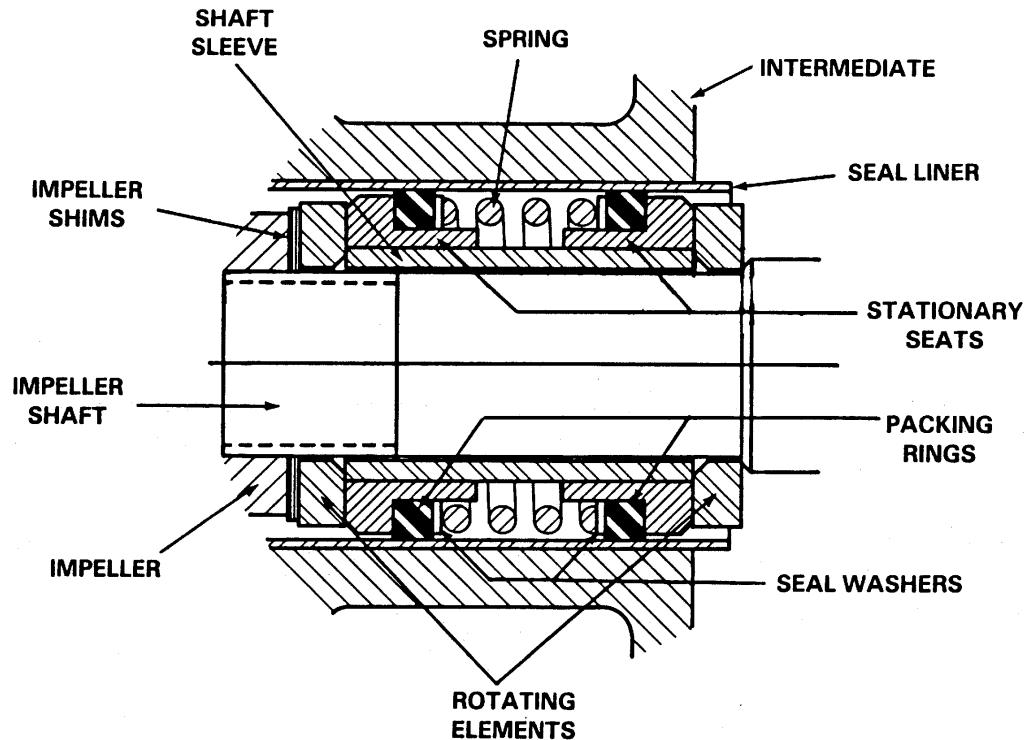

Figure 3. GS01000 Seal Assembly
To ease installation of the seal, lubricate the packing rings and seal liner (11) with water or a very **small** amount of oil, and apply a drop of light lubricating oil on the finished faces. Assemble the seal as follows, (see Figure 3).